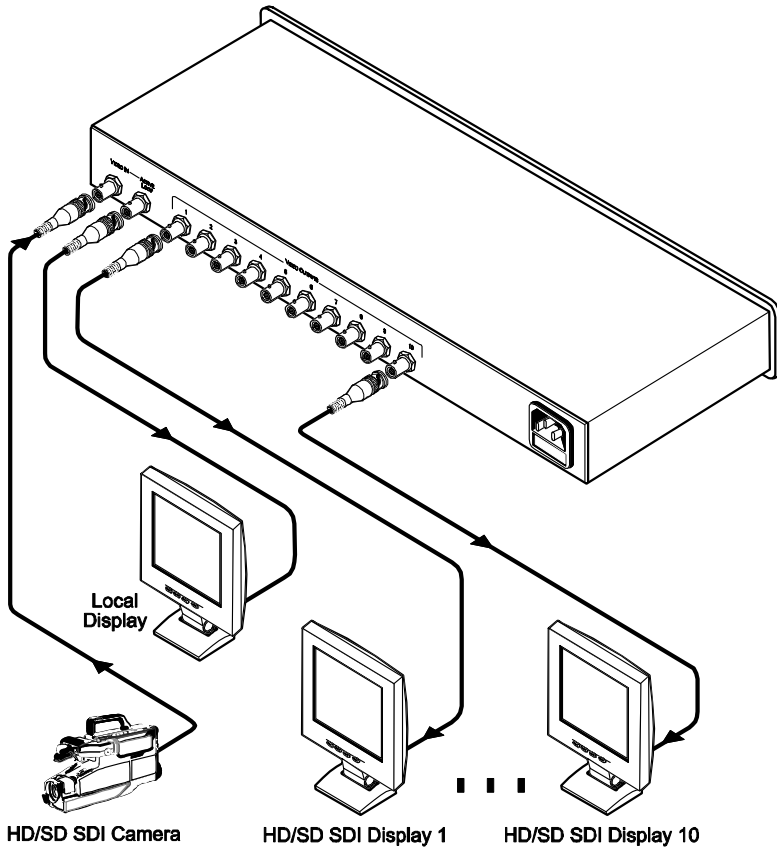

Figure 2: Connecting the VM-10HDxl 3G 1:10 HD/SD - SDI Distribution Amplifier
To connect the **VM-10HDxl**, as illustrated in the example in Figure 2, do the following¹:
3. Connect the power cord (not illustrated in Figure 2).